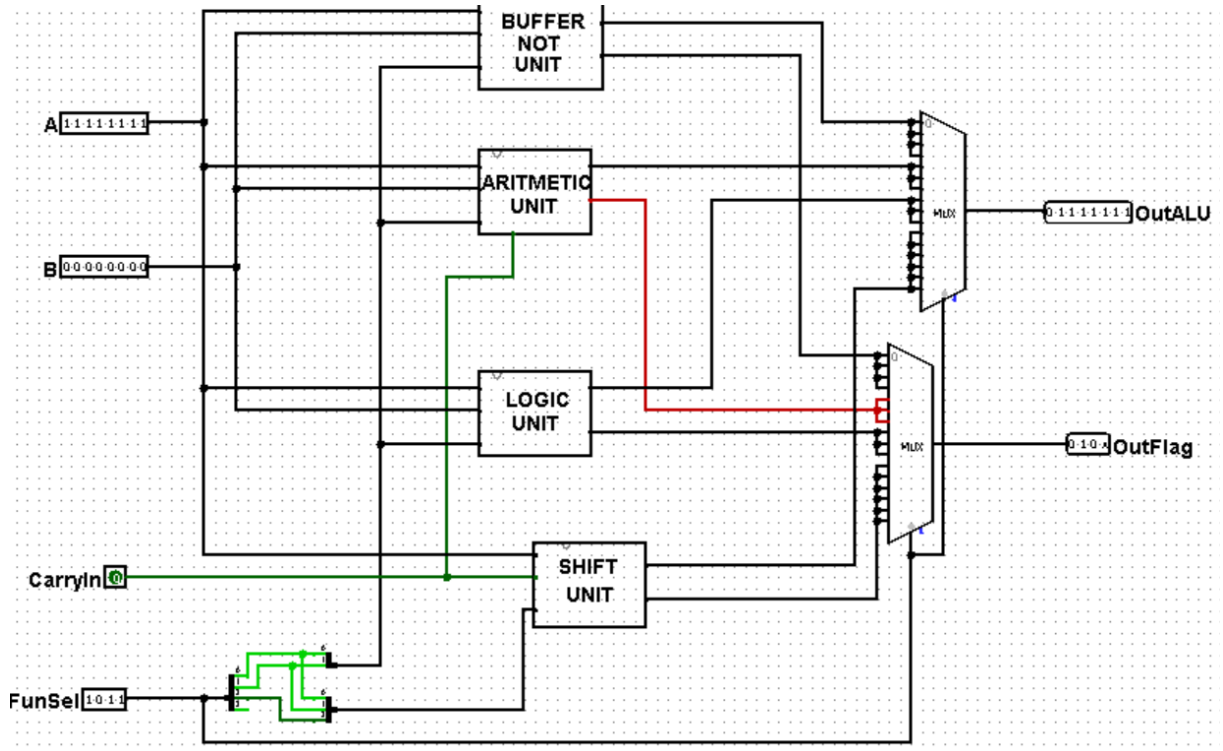

Figure 21: ALU file in the Logisim Circuit while applying first test case datas to design
- And if we enter the ALU file during the simulation, we can see our ALU output = 0x7F , in the following Figure 21.